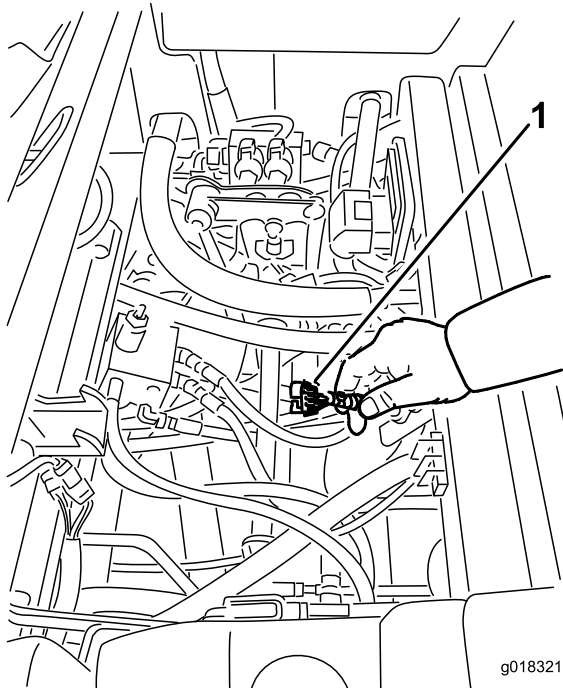

Figure 39
3. Locate the wire harness and connectors near the controller (Figure 39).